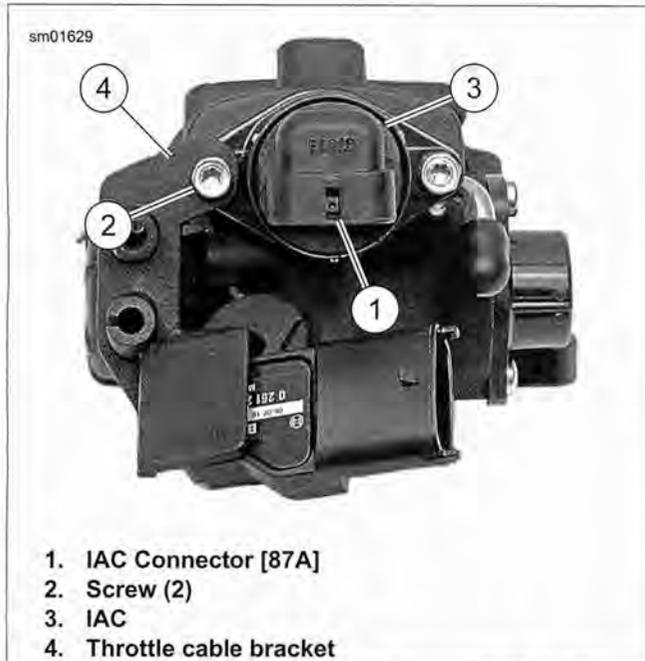

Figure 4-50. IAC Removal/Installation: XL Models
3. See Figure 4-50. Unplug harness connector [87B] from IAC connector [87A] (1).
7. See Figure 4-50. Apply a drop of LOCTITE 243 (blue) to the threads of each screw (2).
8. Install two screws (2). Using a six-point socket (not a Torx wrench), tighten to 60 **in-lbs** (6.8 Nm).
9. Plug harness connector [87B] into IAC connector [87A] (1).